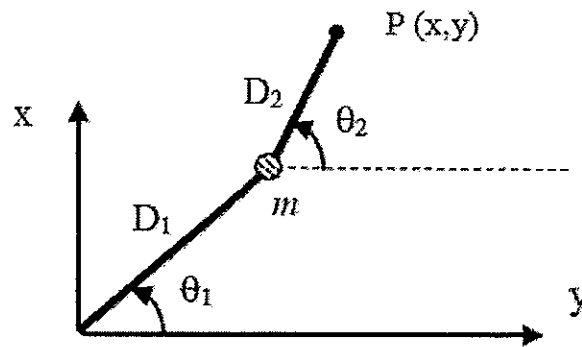

Figure 2.
- ii. Consider a two-link robot with shoulder and elbow joints as shown in Figure 2. Find the Jacobian matrix which relates the velocity of the tip to the joint velocities.